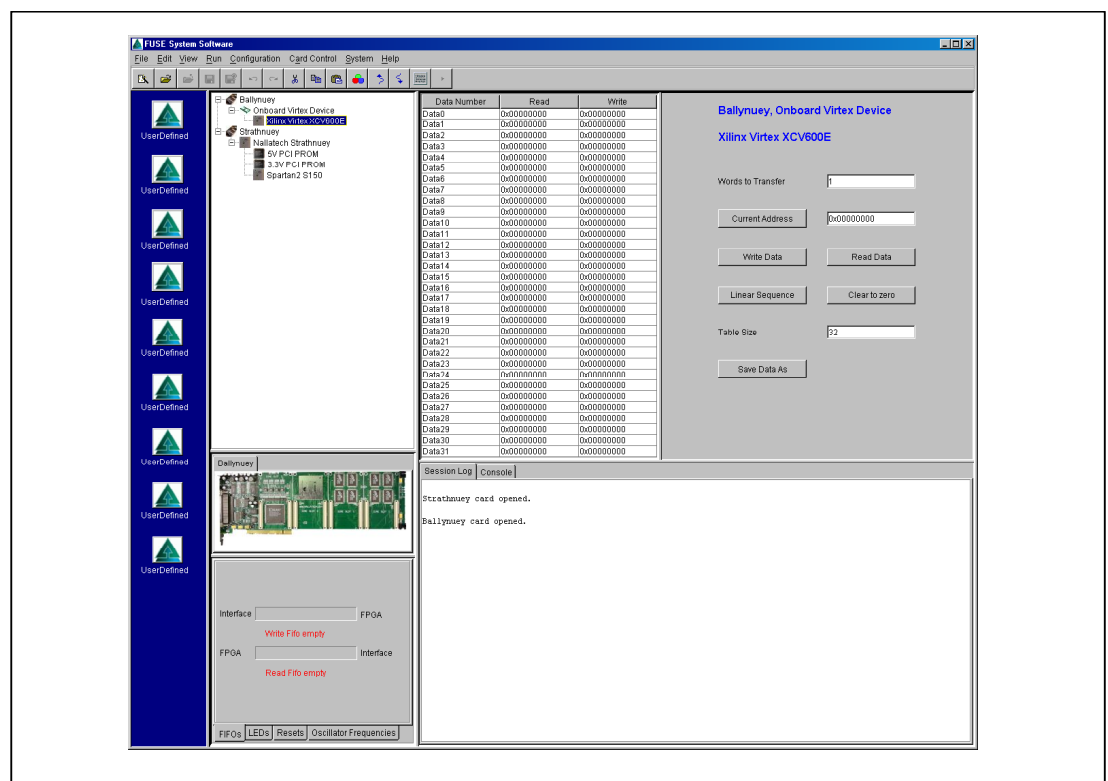

Figure 7: GUI with two cards opened
1. After both cards have been opened, as described in Example I, the screen should look similar to Figure 7: